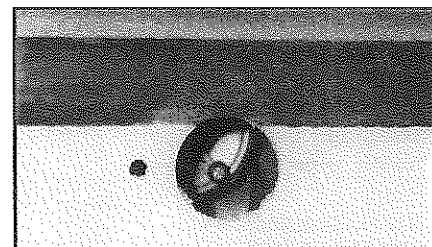

Figure 5. Hole drilled for through-hull.
- Wipe off any excess caulk after fully tightening the nut. (Figures 5 and 6.)